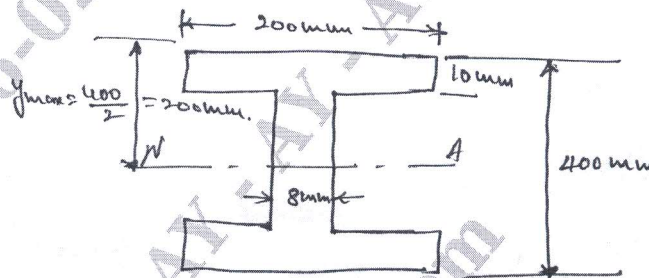

Fig. Q7 (b)
- b. The cross section of a beam is as shown in Fig. Q7 (b). If permissible stress is 150 N/mm^2 . Find its moment of resistance. Compare it with equivalent section of the same area for a square section.